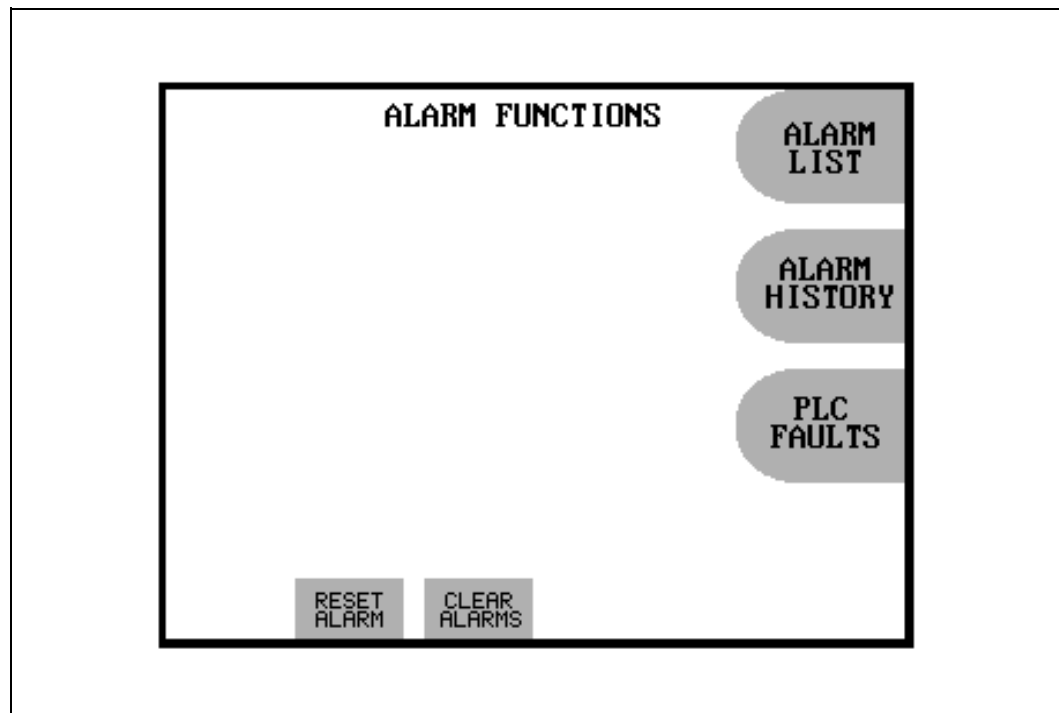

Figure 9-1: Alarm Functions Screen
- **RESET ALARM** key on the Alarm Screen (Figure 9-1).